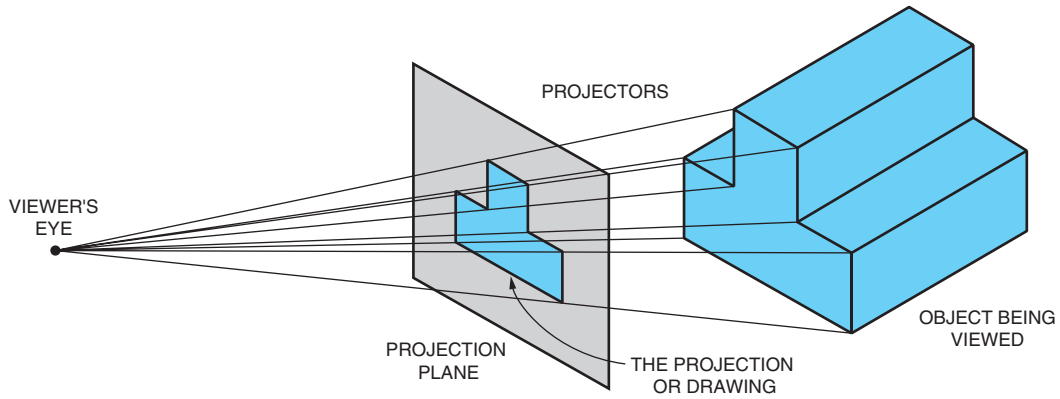

FIGURE 7 The projection plane.
As shown in **Figure 7**, a projection involves four components: (1) the actual object that the drawing or projection represents, (2) the eye of the viewer looking at the object, (3) the imaginary projection plane (the viewer's drawing paper or the graphics display in a computer-aided drafting system), and (4) imaginary lines of sight called *projectors*.